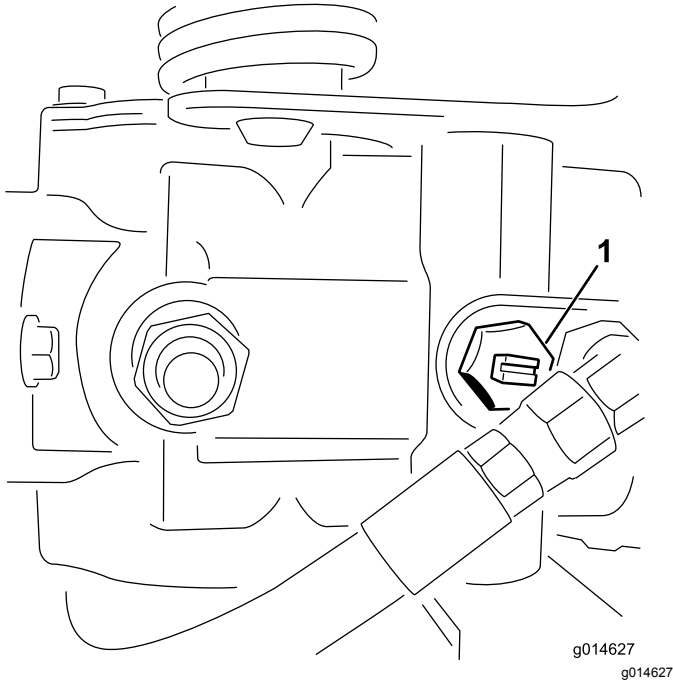

Figure 22
1. Locate the bypass valve on the pump and rotate it so that the slot is vertical (Figure 22).
2. Before starting the engine, close the bypass valve by rotating it so that the slot is horizontal (Figure 22). Do not start the engine when the valve is open.